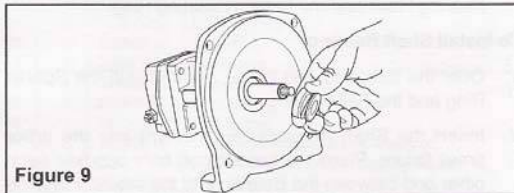

Figure 9
- To install the rotary portion of the mechanical seal, place it over the shaft with the carbon side facing in, and press against the stationary portion (See Figure 9).